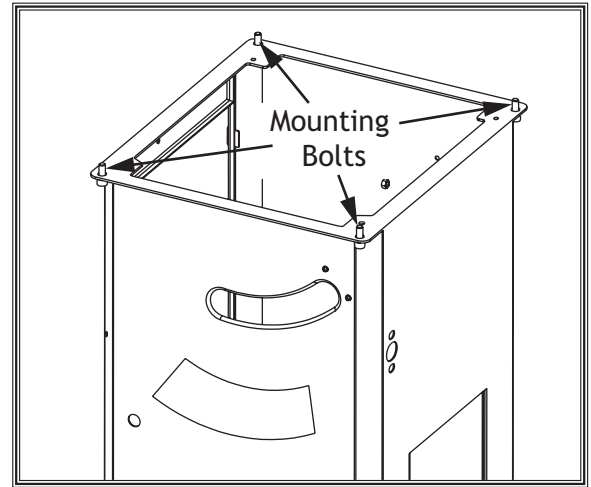

Figure 105. Location of table mounting bolts (table omitted for clarity).
6. Loosen (4) table mounting bolts securing table top to base (see **Figure 105**), and lightly tap table in direction needed to square table to blade.